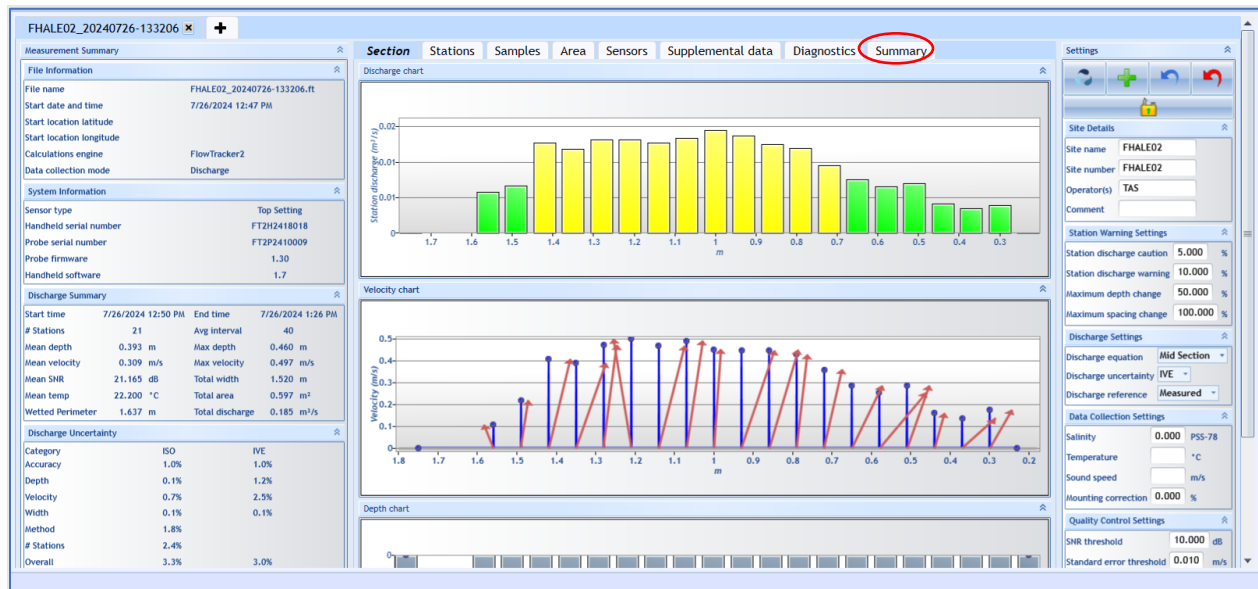

Figure SOP 24.15. A FlowTracker2 software summary. The Summary tab from which the PDF is saved is circled.
9. Data can be reviewed and edited and once it is satisfactory, click the *Summary* tab at the far right of the selection above the data (Figure SOP 24.15). From here click the button that says “Save PDF of summary” in order to open a PDF of the summary in your browser. Save this PDF with the naming convention, “TransectName.pdf” (e.g., FHALE02.pdf).